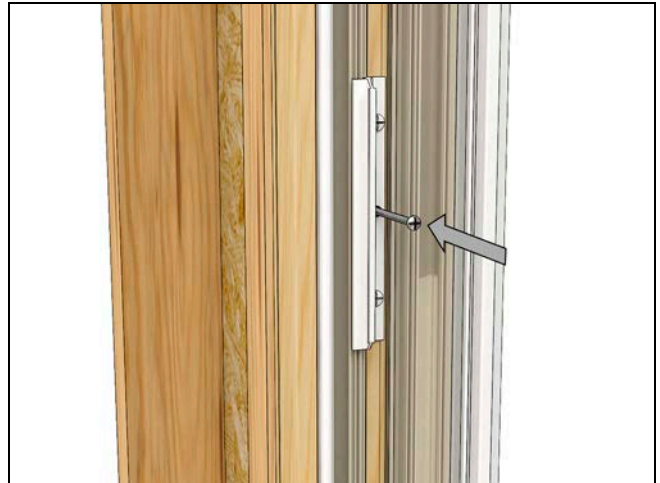

Figure 28
8. Units with performance brackets, fasten with screws in the center of brackets. See Figure 28.